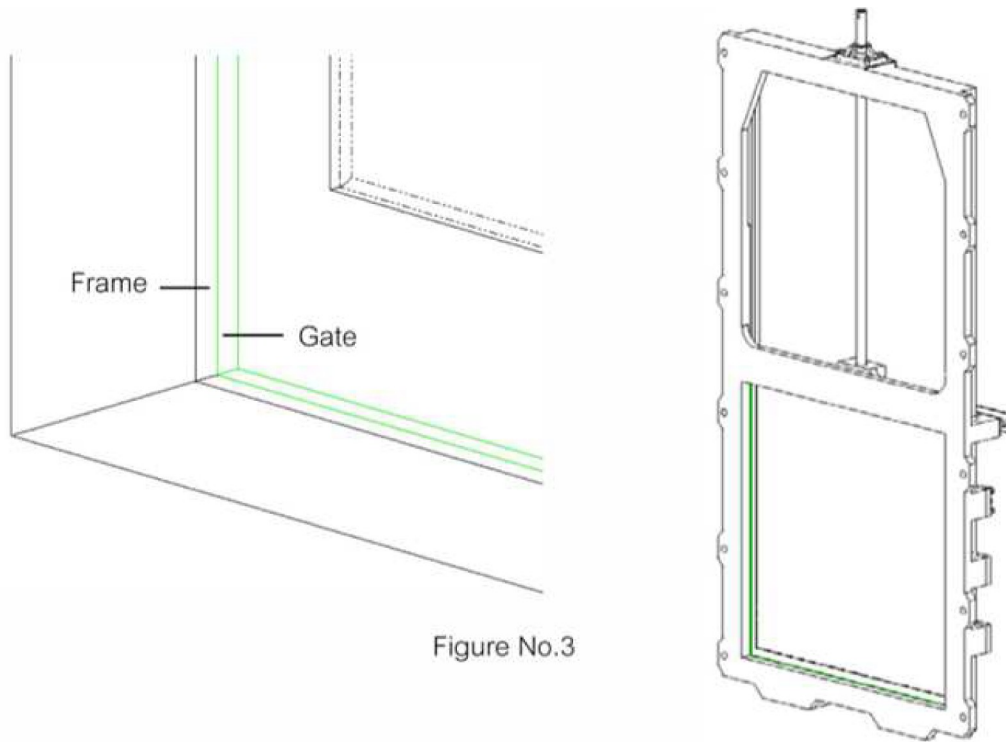

Figure No.3
3. Insert the 0.1 mm. Filler gauge between gate and frame to check the leakage. ( Set the penstock until there is no leakage between gate and frame.) (Figure. no.3)